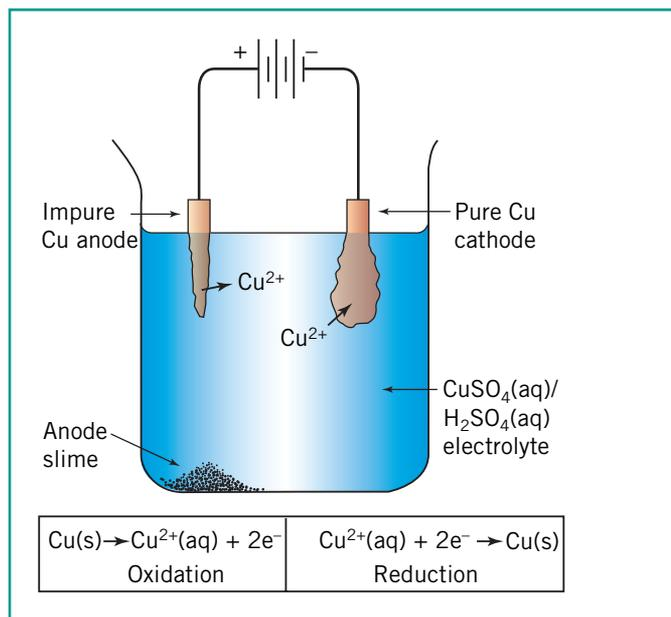

Figure 6.21 The electrorefining of copper
The impure blister copper is cast into slabs and made the anode (positive electrode) of an electrolytic cell (Figure 6.21). The cathode is a thin sheet of pure copper and the electrolyte is copper(II) sulfate solution, acidified with sulfuric acid.